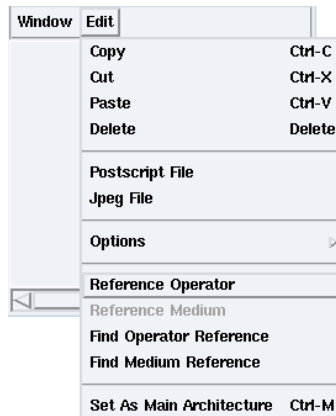

Figure 1.15: Edit / Reference Operator
- to create a reference to the operator U_{inout}, **Edit / Reference Operator** (cf. figure 1.15) → dialog window: click **user**, double click **U_{inout}** → dialog window: u1,